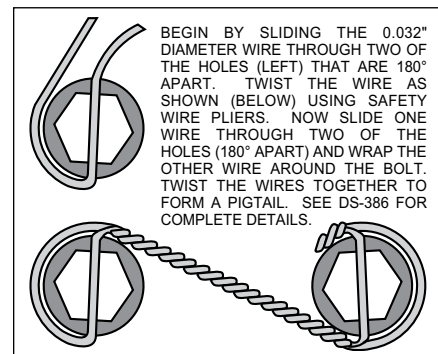

Figure 3. Safety Wire Diagram
- The caliper mounting bracket assembly (1) should be installed first with clean, dry threads on the mounting bolts. The bracket must tighten squarely against the inboard side of the caliper mount bosses on the spindle body. Inspect for interference from casting irregularities, machining ridges, burrs, etc. Slide bolt (2) through lock washer (3) then through the hole in the spindle body where the OEM bolt was removed. Use one thin shim (4) between the bracket and spindle during initial trial fitting. Later, after the caliper, pad and rotor alignment have been checked, and any necessary shims have been put in place, the mount bolts (2) should be coated with red *Loctite*® 271 and torqued to 60 ft-lb.
- With the larger I.D. side of the rotor (5) facing away from the hat (6), bolt rotor (5) to hat (6) through the backside of the rotor using washers (7) and bolts (8). Apply red *Loctite*® 271 to the bolt threads and torque to 155 **in-lb** using a criss-cross pattern. For an added measure of security, the bolts may be safety wired using standard 0.032 inch diameter stainless steel safety wire as shown in Figure 3. Please refer to Wilwood's data sheet DS-386 (available at www.wilwood.com/Pdf/DataSheets/ds386.pdf) for complete safety wire installation instructions. Slide the rotor/hat assembly onto the spindle. Install a couple of lug nuts (hand tighten) to keep the rotor/hat assembly in place while continuing with the installation.
- With the bleed screws pointing up, mount the caliper (9) onto the caliper bracket (1) with the self locking hex nut (10), flat washer (11), through the top of the caliper and mounting stud (12) with .035" thick shim (13) and spacer (14) positioned between caliper (9) and caliper mounting bracket (1). Finger tighten. Check to see that the top of the rotor is aligned with the top of the brake pad. If adjustment is necessary, add or subtract flat washers (13). View the rotor (5) through the top opening of the caliper (9). The rotor (5) should be aligned in the center of the caliper (9). If not, adjust the caliper (9) by adding or subtracting shims (4) and/or (16) placed between the spindle assembly and the caliper mounting bracket (1). Finger tighten and recheck alignment. Reinstall the caliper and torque the caliper nuts (10) to 30 ft-lb.
- Remove the bridge bolt from the caliper (9) and install the disc brake pads (15). Reinstall the caliper bridge bolt.